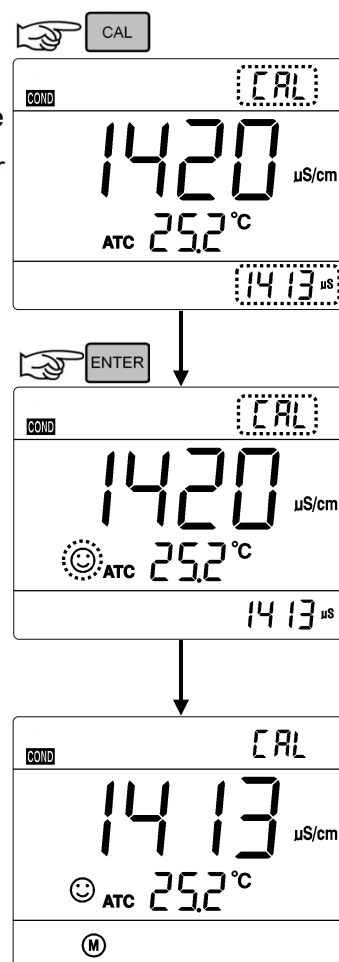

Figure-12
7.4.3 When the meter locks 1413 µS, stable icon ☺ will display on LCD. Press **ENTER** key to complete calibration. End will appear and the meter will return to measuring mode and **(M)** is displayed on bottom left of the LCD screen. See figure-12.